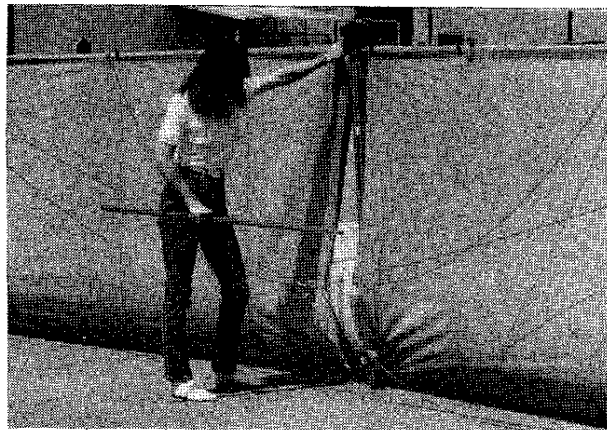

Figure 2.5
9. Pull out wings as far as they go and insert kingpost through opening in wings. **Figure 2.5**